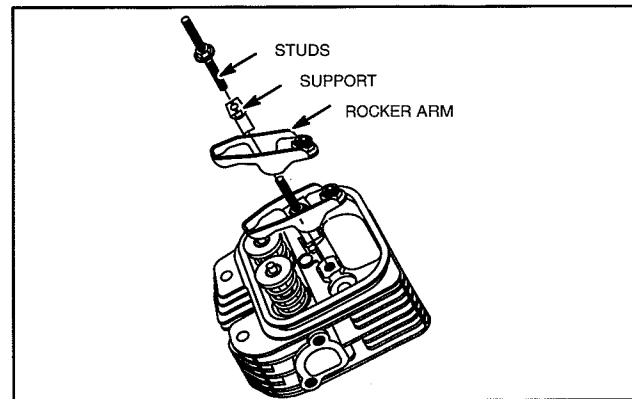
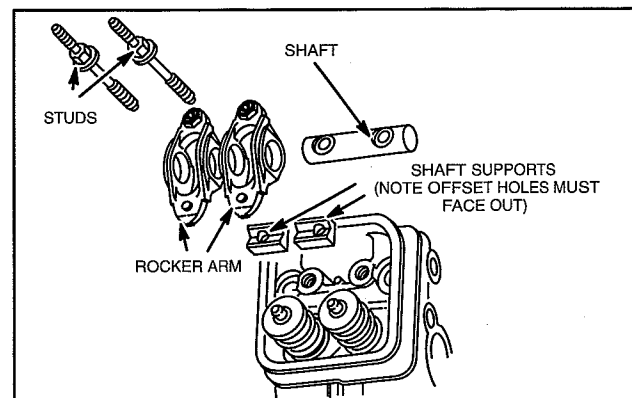

Fig. 5 – Removing Rocker Assembly (Current)
Fig. 6 – Removing Rocker Assembly (Early)
1. Remove two rocker studs and rocker arm assembly, Fig. 5 or Fig. 6.